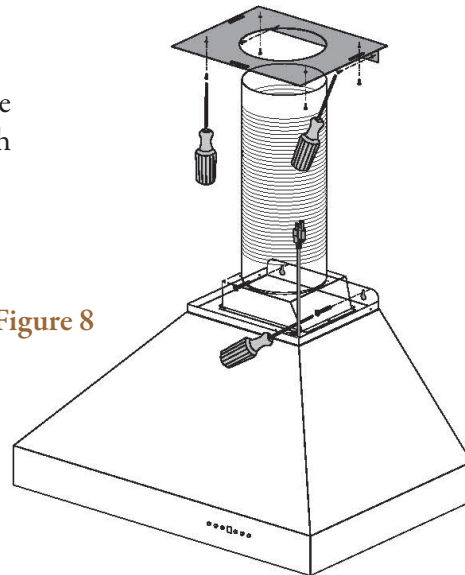

Figure 8
- 9 Install the chimney on top of the hood. Secure the lower portion with the provided screw at the bottom. (Figure 8)
Install plastic drip cup by sliding into brackets located at the bottom of the motor. Install ♦baffle channel and baffle filters. (Figure 8)